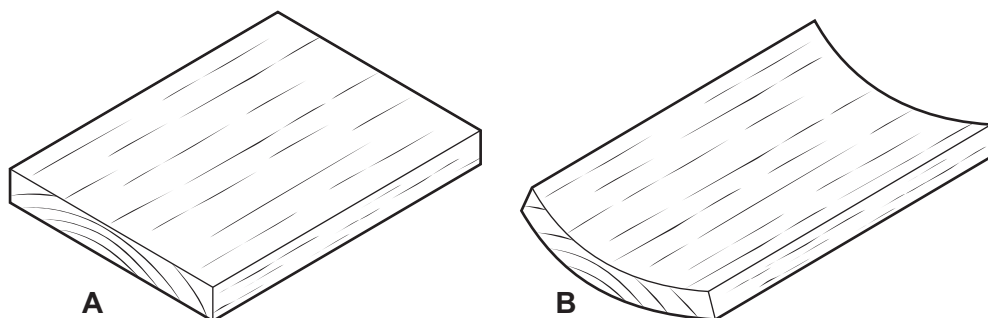

Fig. 1.1
- 1 Fig. 1.1 shows a solid wood board **A**, and the same board **B**, after it has warped.